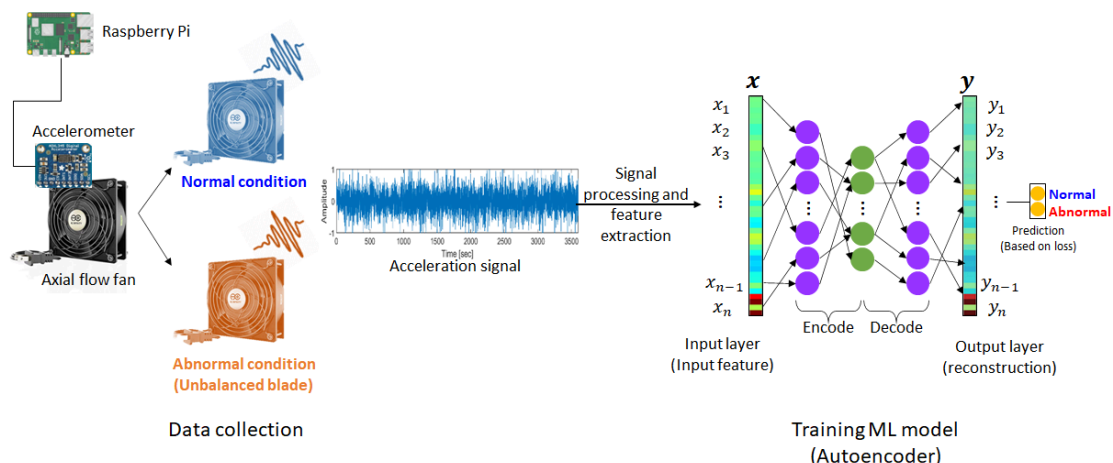

Figure 1 Lab8: Schematic of anomaly detection model training for axial flow fan
In this lab, we will create a machine learning (ML) model based on the accelerometer (ADXL345) signals to predict the running conditions of the axial flow fan (AFF) which we used in Lab 2. An autoencoder we practiced in Prelab8 will be employed to determine whether AFF is in a normal or abnormal condition. Lab8 is broken down into two main sections: **1) Data collection**, and **2) Training ML model**. In the data collection section, we will collect accelerometer data when the machine is in normal and abnormal conditions using Raspberry Pi. The abnormal condition will be set of increasing eccentric force by adding a mass on a blade of the AFF as Lab2. In the training ML model section, we will utilize the given scripts in Prelab8 to train an autoencoder. In addition, we will perform feature engineering by doing signal processing to see the effects of input feature on the performance of the ML models. And the, we will save the selected and trained model to local disk to use it in the next lab. The schematic of Lab9 is illustrated in Figure 1.